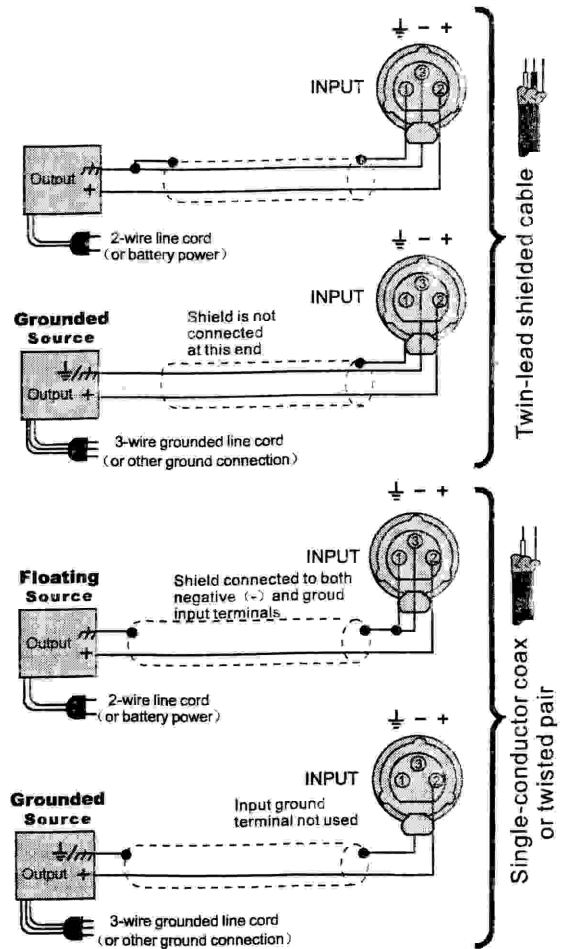
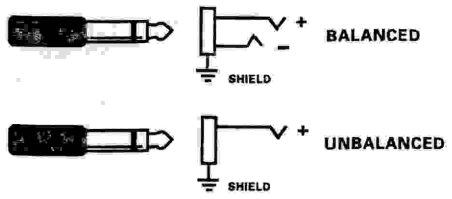

Fig. 3.7 Unbalanced Input Wiring
Fig. 3.9 Balanced and Unbalanced Phone Plugs
Both the balanced XLR and phone jack inputs have a nominal impedance of 20 K ohms (10 K ohms with unbalanced wiring) and will accept the line-level output of most devices. Female XLR input connectors are provided on the standard P.I.P.-FX input module (other P.I.P. modules are described in Section 8.1). Correct input wiring will depend on two factors: (1) whether the input signals are balanced or unbalanced, and (2) whether the signal source floats or has a ground reference. Figures 3.7 and 3.8 show the recommended connection techniques for each type of signal source. The amplifier's built-in 1/4-inch phone jack input connectors can be wired similarly for balanced or unbalanced, floating or ground-referenced sources. They have a standard tip-ring-sleeve (TRS) configuration: the tip is positive (+), the ring is negative (-) and the sleeve is ground (see Figure 3.9). Wiring for various sources follows the XLR wiring guidelines shown in Figures 3.7 and 3.8.